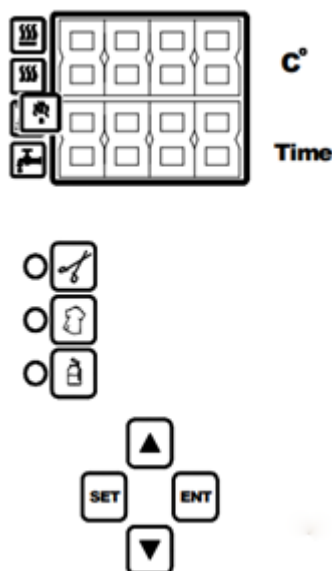

Figure-3
- 2) Control panel (see **Figure-3**)